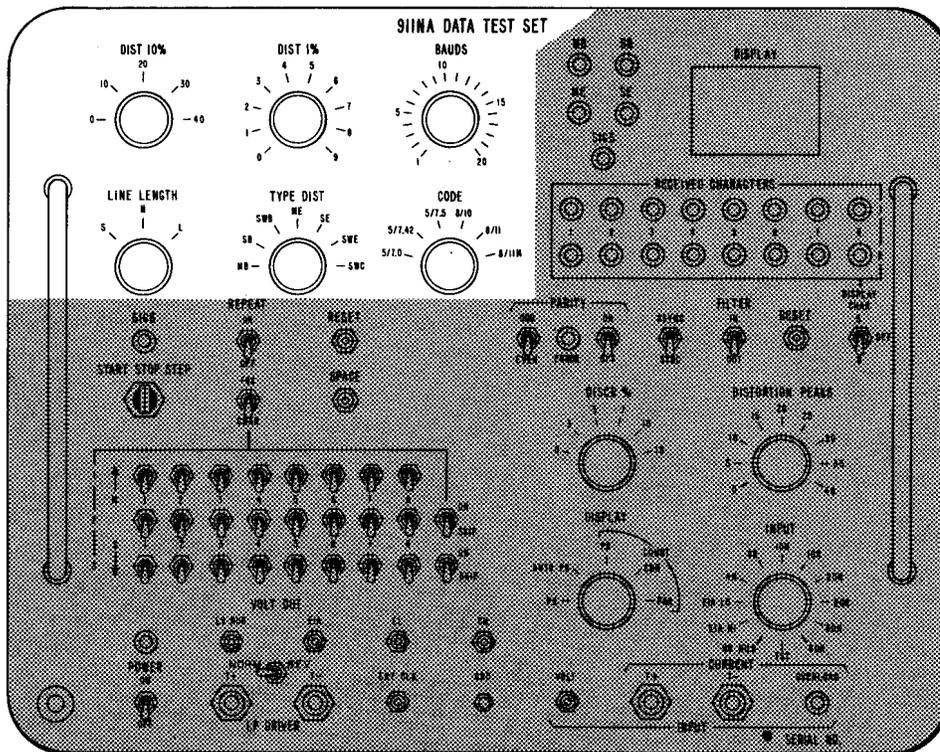

Fig. 11—Location of Switches Governing Type of Signal
**3.12** Figure 11 shows the six switches on the TSG that are used to set up the type test sentence to be generated.